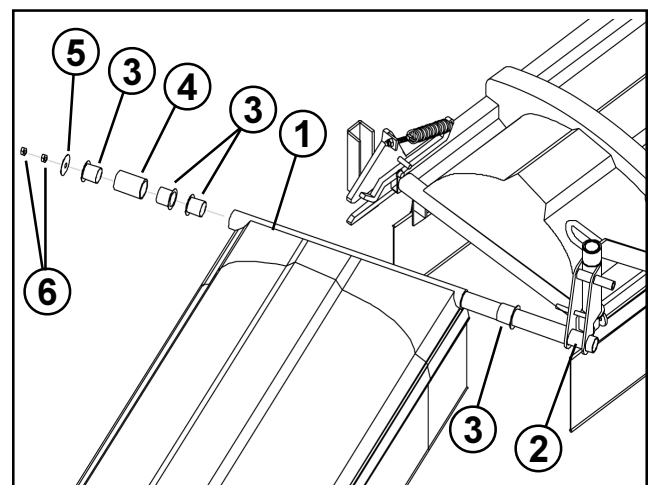

FIG. 5
3. Lightly grease Right and Left Boom horizontal pivots where bushings will rotate. Assemble Right and Left Booms onto Boom Center Section / Horizontal Pivot Joint as per FIG. 5 ensuring that bushings are properly seated. Torque the wing retainer jam nut to 15 ft. lbs and lock with second jam nut.
4. Assemble (2) Anti-scalp Castors onto back outer mount on Right and Left Booms using (2) 7/16" lock nuts.